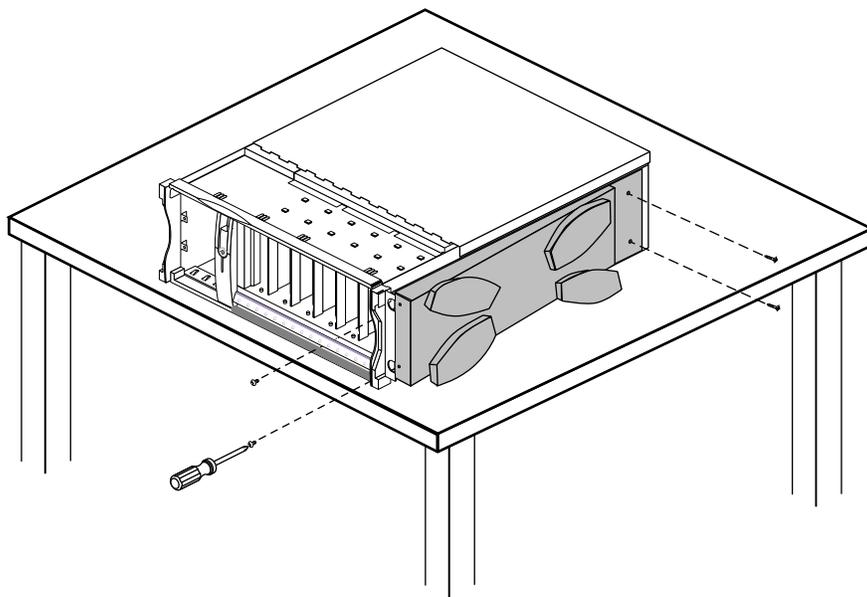

Figure 5-10 Removing the Pedestal Assembly (Feet)
3. Remove the pedestal assembly (to which the feet are attached). See Figure 5-10.